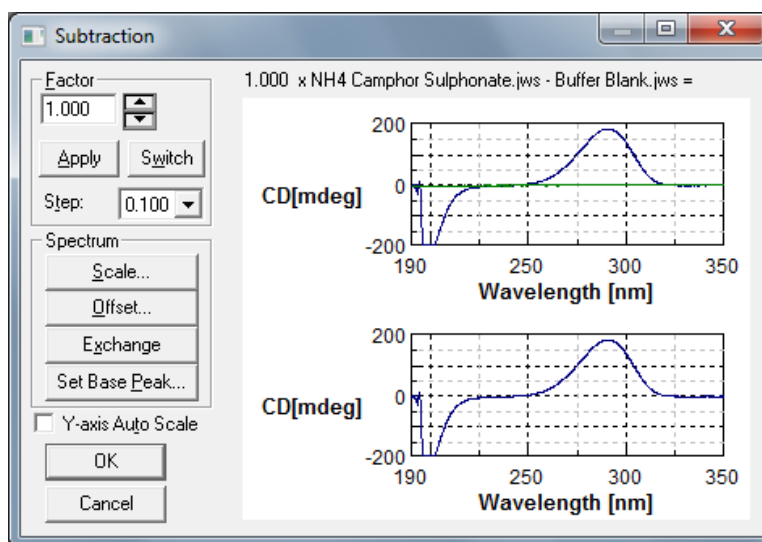

Figure 5. Blank Subtraction for ACS Std.jws.
- 6.1.1.2.1 With the ACS Std.jws file open, go to 'Processing' under menu and select 'Subtraction' which takes you to the 'Open New File' window. Open the blank run you wish to subtract. When the 'Subtraction' menu pops up (Figure 5), the scale on the x axis can be set to 250 to 320 nm and the y axis can be set to 0 to 200 nm range before clicking 'OK'.